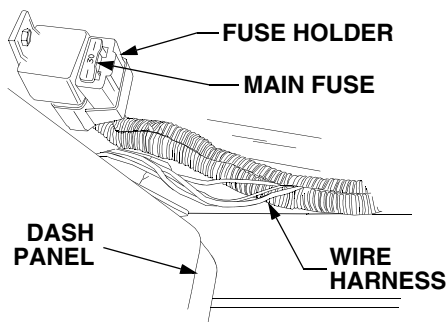

Figure 39
- Raise the tractor hood and locate the main fuse on the lower/right pedestal beneath the dash panel. Refer to Figure 39.